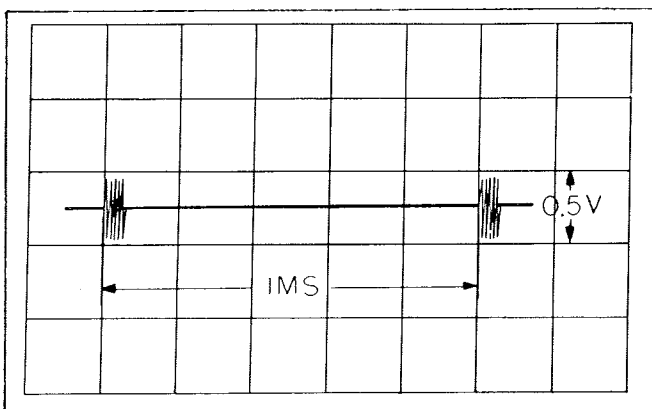

Figure 6.22 - Right Side of R61 Waveform
p. Reconnect oscilloscope to terminal E91 (or right side of R61). The observed 1 KC spectrum waveform should resemble the one shown in figure 6.22.